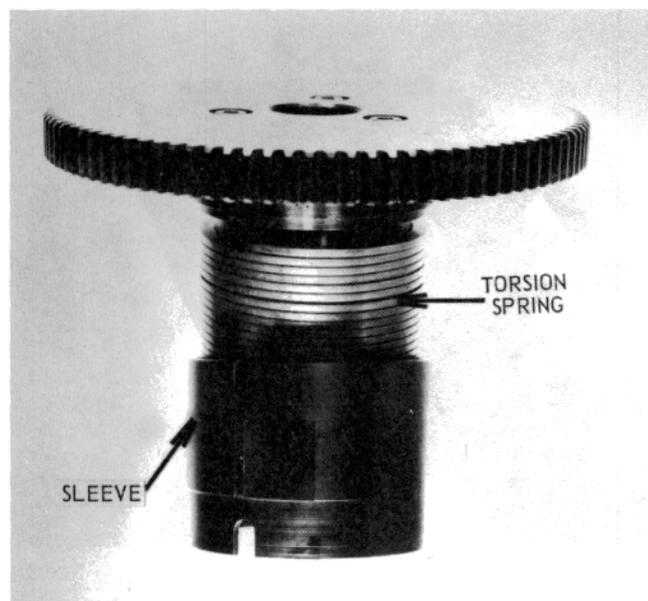

Figure 56 – Cocking Clutch Gear, Sleeve, and Torsion Spring
3.1.4 Remove the sleeve from the gear to expose the cocking clutch torsion spring (see Figure 56). First pull the sleeve over the spring.